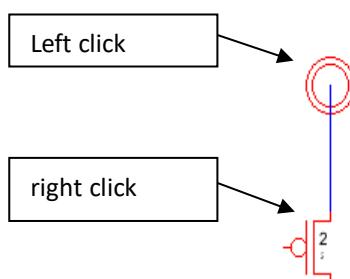

Figure 1.10: Making connections between components.
8. Make connections between the components by clicking the left button of the mouse on one terminal of a component and then clicking the right button on the terminal you want to connect it to (see Figure 1.10).